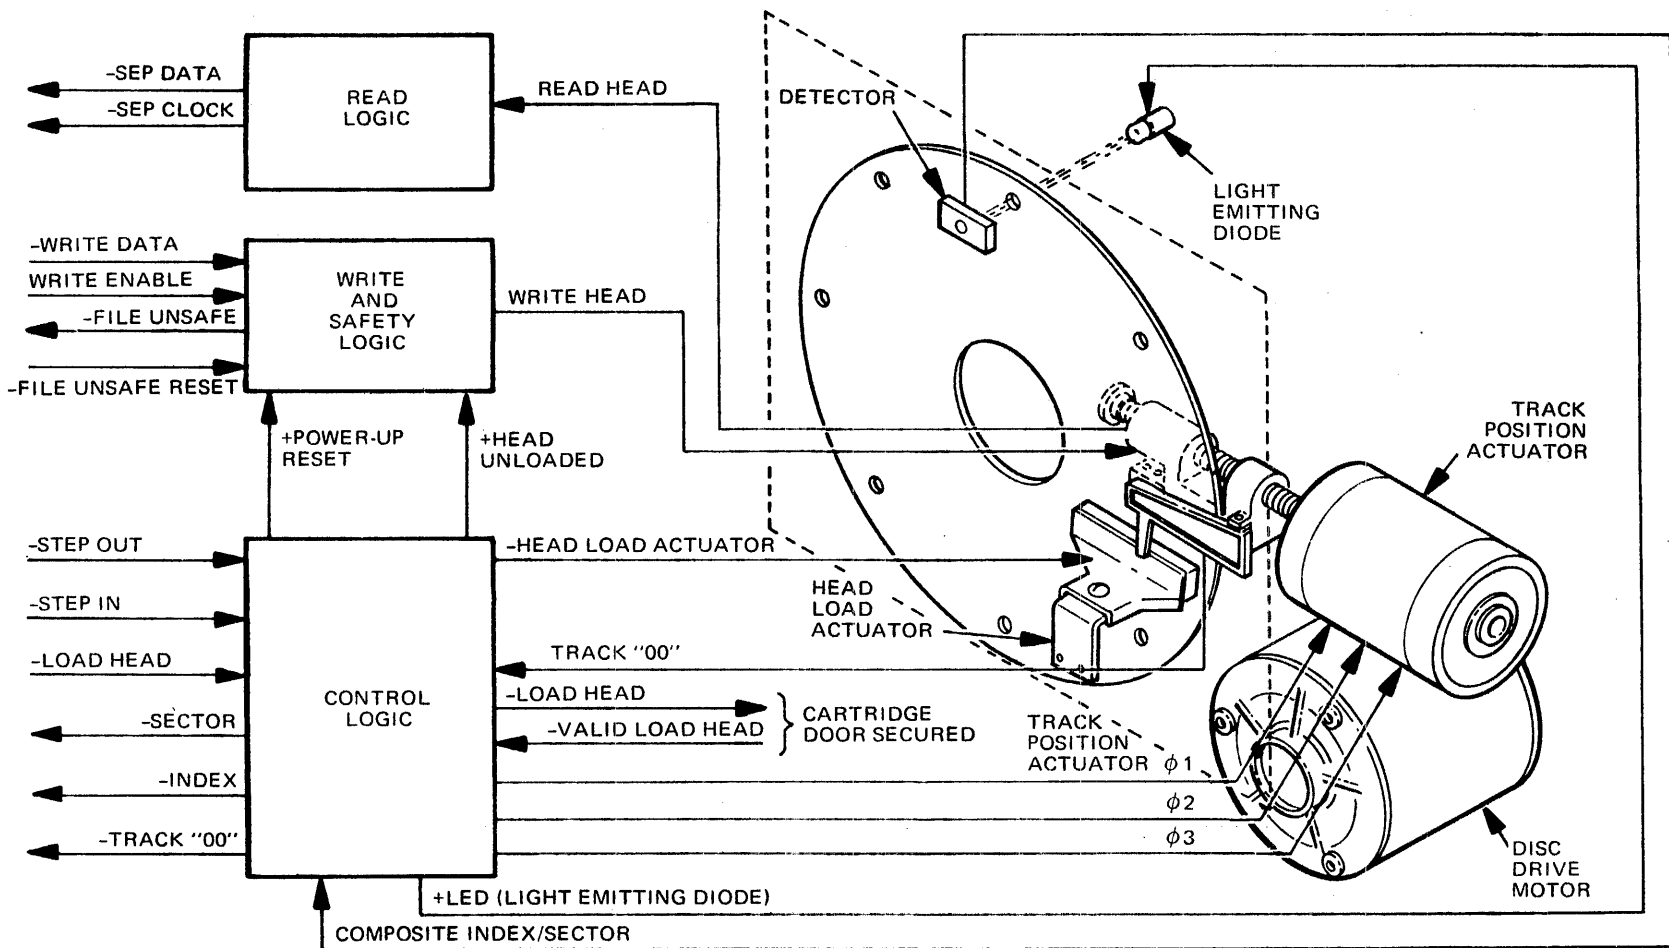
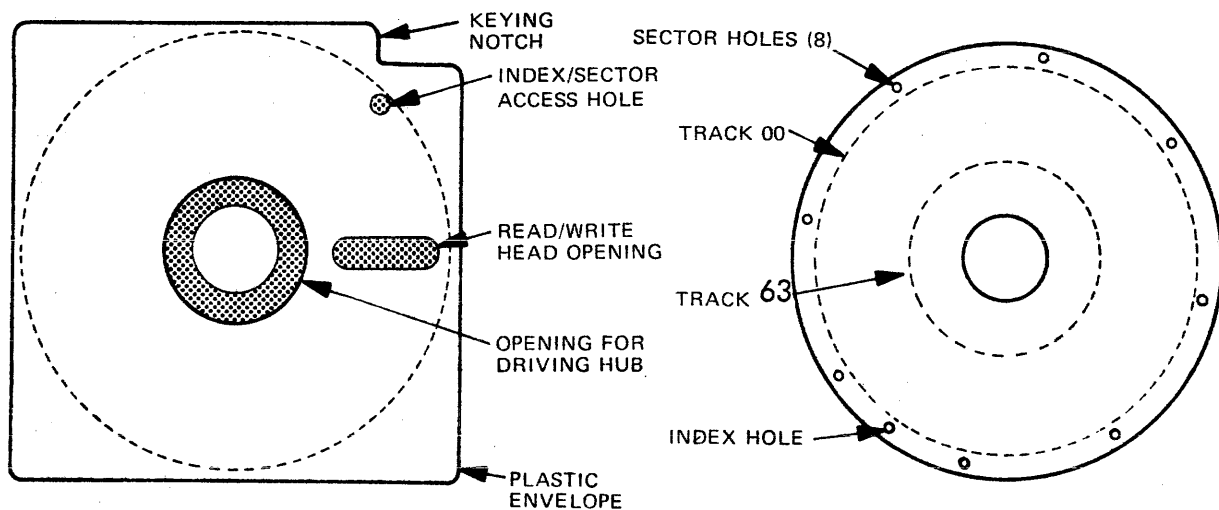

Figure 1. Functional Diagram
Figure 3. Disc Cartridge and Disc Configuration
The internal functions of the drive and the required interface signals to and from the using system are shown in Figure 1. The Read, Write, Safety and Control Logic are the interface electronics between the formatter and drive. The Track Positioning Actuator positions the read/write head to the desired track on the disk. The Head Load Actuator loads the disk against the read/write head and data may then be recorded or read from the disk. Each of the logic blocks and signal names shown are later discussed under Logic and Analog Functional Descriptions.
The disc is vertically mounted in the 651 it rotates at 375 rpm in a plastic envelope, which protects and cleans the recording surface during operation. The disc, 7.5 inches in diameter, has 32 holes spaced around the periphery for sector definition. There is also one additional hole for indexing. Figure 3 shows the disc cartridge and disc configuration.
This section discusses each logic block and signal name shown in Figure 1. The descriptions are divided into each of three logic blocks: Control, Write and Safety, and Read.
**SECTOR and INDEX** Provides disc sector and index position information. Each signal is a separate output. These pulses are generated from equally spaced holes located around the periphery of the disc (Figure 3) and are used for the formatting and orientation of data on the disc.
Detector signal input to the Control Logic. As shown in Figure 3, 32 holes (0.10 inches diameter) divide the disc into equal sectors. The ninth hole (same diameter) spaced midway between two sector holes indicates one disc revolution. The LED and Detector (photo transistor) are placed on opposite sides of the disc (Figure 1). As the disc revolves, the holes pass between the LED and Detector illuminating the Detector and turning it on. The Detector output is shaped by a threshold detector and an output pulse is obtained. Output is normally at +5 Volts with a transition to 0 Volts for the pulse. Internally within the Control Logic, the INDEX and SECTOR signals are separated and are transmitted via separate interface lines.